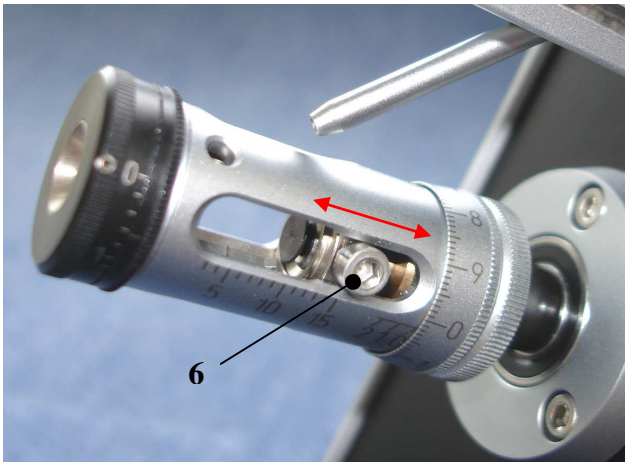

Fig. 9
- Slowly push the big Allen screw **(6)** back and forth. This will cause the four stripping blades to automatically fit into the tracks on the guide plate Fig. 9.